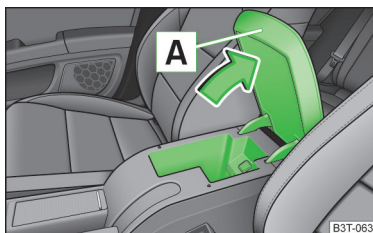

Fig. 87
- Pull and open the cover of the armrest using the handle **A** in the direction of the arrow » Fig. 87.
➤ Open the lid to the stop, only then can it be folded downwards and against the direction of the arrow » Fig. 87.